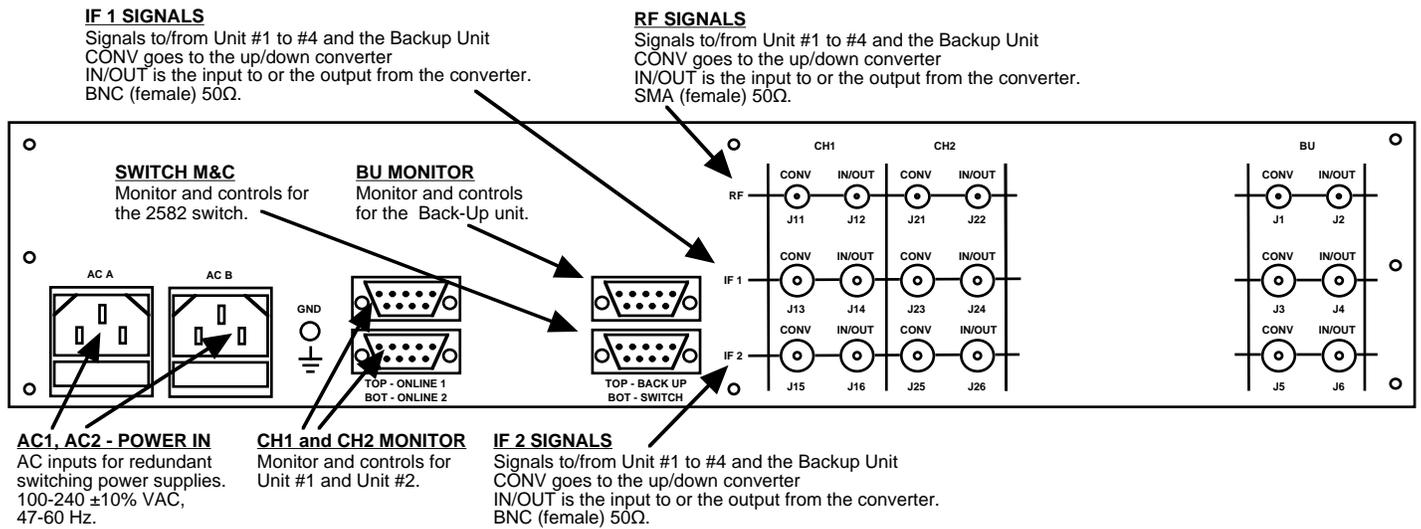

FIGURE 2.1 2582-324 Rear Panel I/O's
Figure 2.1 shows the input and output connectors on the rear panel.
1. Connect Converters (CH1, CH2, BU) to respective channels on the 2582 (Figure 2.1).
2. Connect Alarm/Control cables from Converters to respective monitors on the 2582 (Figure 2.1).
3. Connect two 100-240 \pm 10% VAC, 47 - 63 Hz power cords to AC A and AC B on the back panel (Figure 2.1).